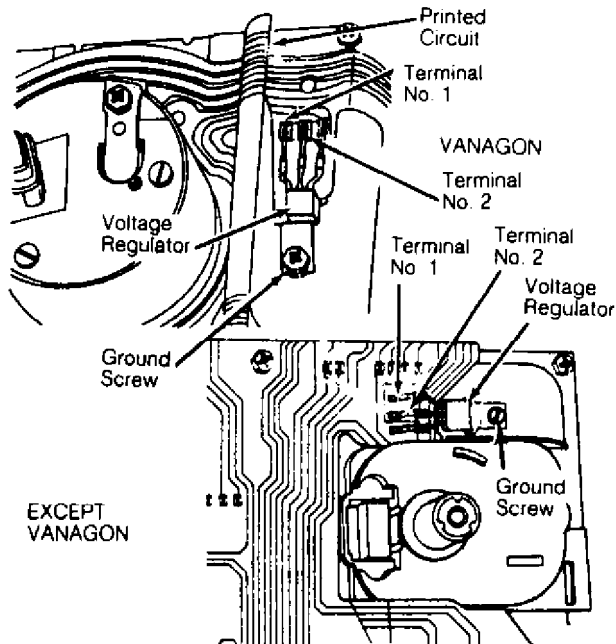

Fig. 1: Testing Voltage Regulator
3) Turn ignition on. Connect voltmeter negative lead (-) to terminal No. 2 of regulator. Connect positive lead (+) to terminal No. 1. See Fig. 1. Meter reading should be 10 volts with an allowable tolerance of .5 volt. If voltage reading exceeds specification, replace voltage regulator.